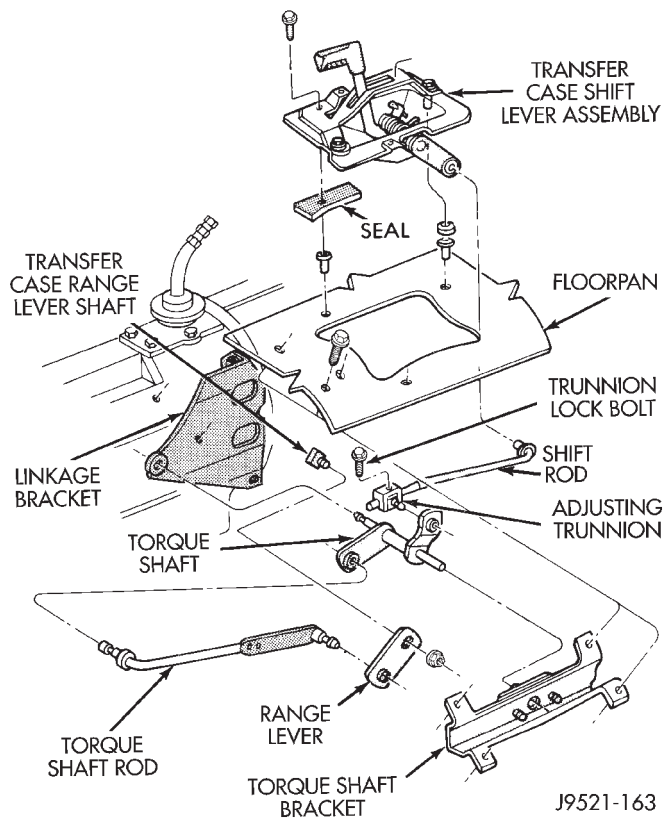

Fig. 2 Shift Linkage
- (1) Shift transfer case into 4L.
- (2) Raise vehicle.
- (3) Loosen adjusting trunnion locknut and slide shift rod out of trunnion (Fig. 2). If rod lacks enough travel to come out of trunnion, push trunnion out of torque shaft.
- (4) Lower vehicle.
- (5) Remove console. Refer to park brake section in Group 5 for procedures.
- (6) Remove screws attaching lever assembly to floorpan and remove assembly and shift rod (if left attached).